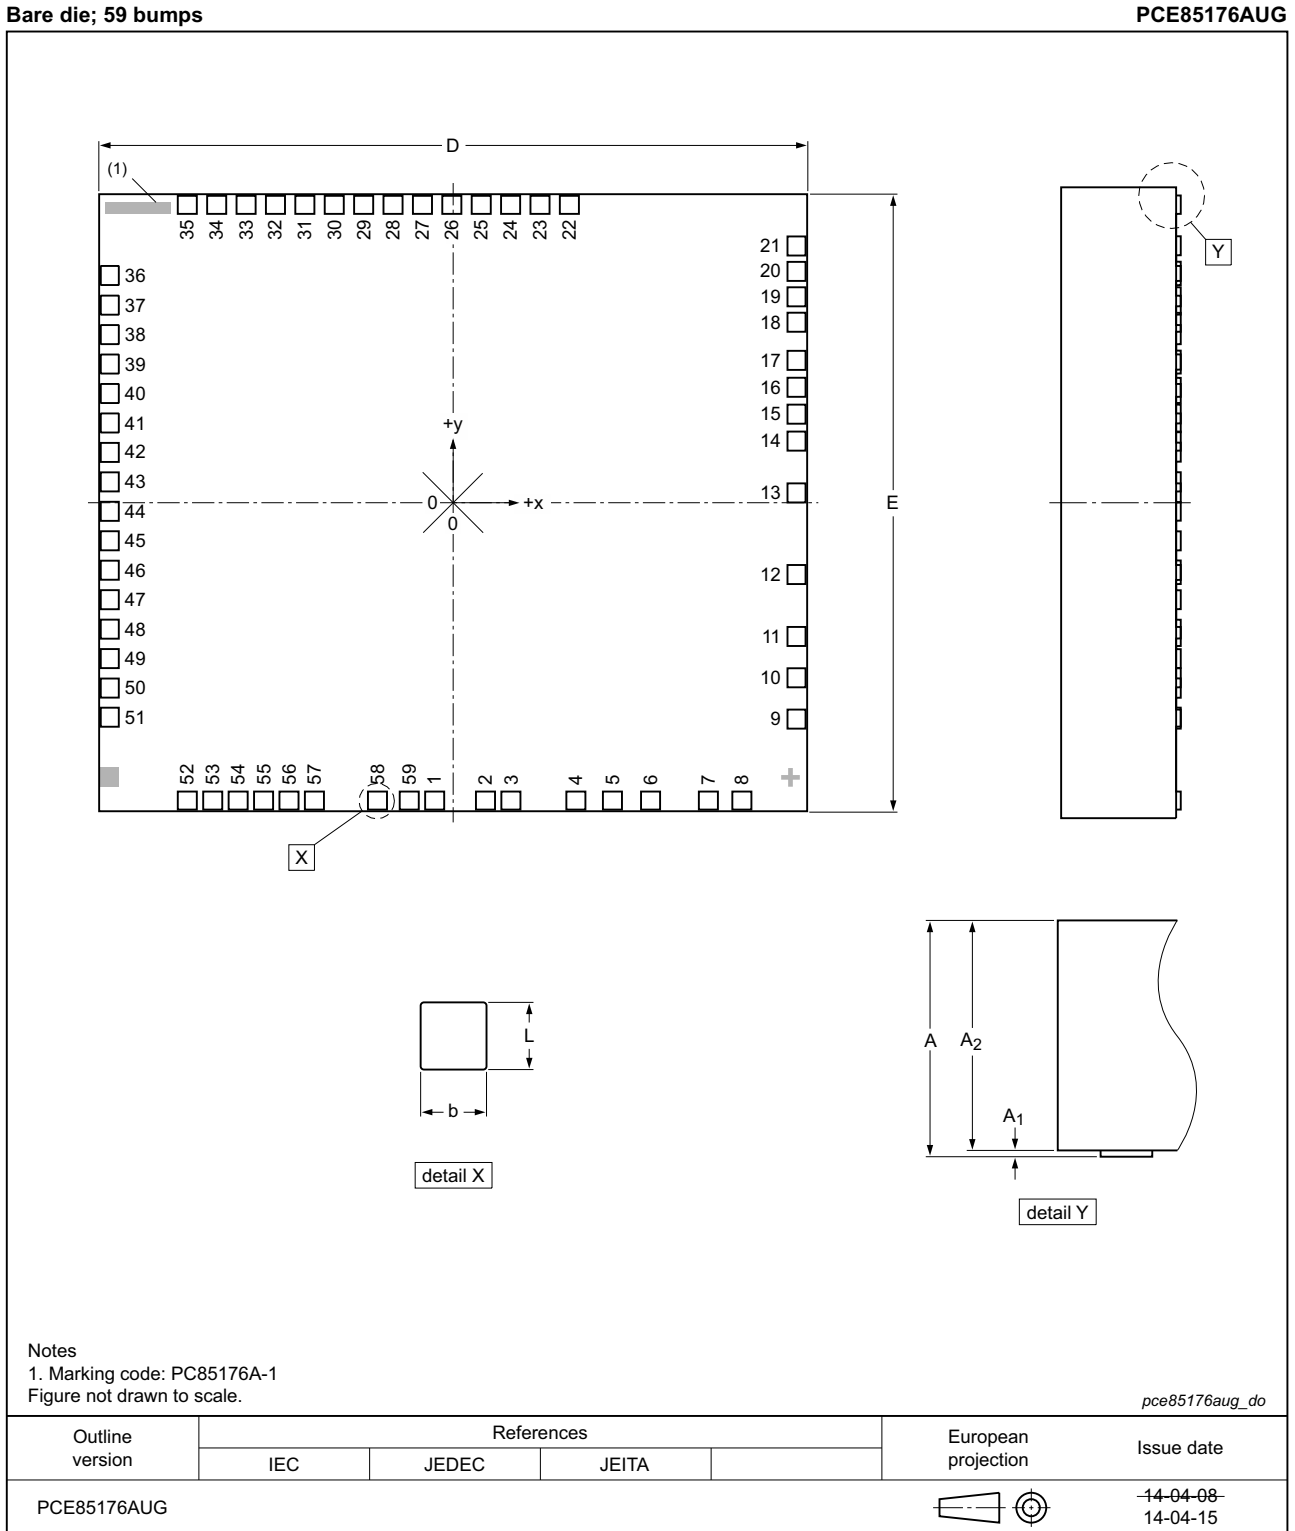

Fig 27. Bare die outline of PCE85176AUG
**Table 27. Bump location for PCE85176AUG**All x/y coordinates represent the position of the center of each bump with respect to the center (x/y = 0) of the chip (see Figure 27).
All x/y coordinates represent the position of the center of each bump with respect to the center (x/y = 0) of the chip (see Figure 27).
All x/y coordinates represent the position of the REF point (see Figure 28) with respect to the center (x/y = 0) of the chip (see Figure 2, and Figure 27).